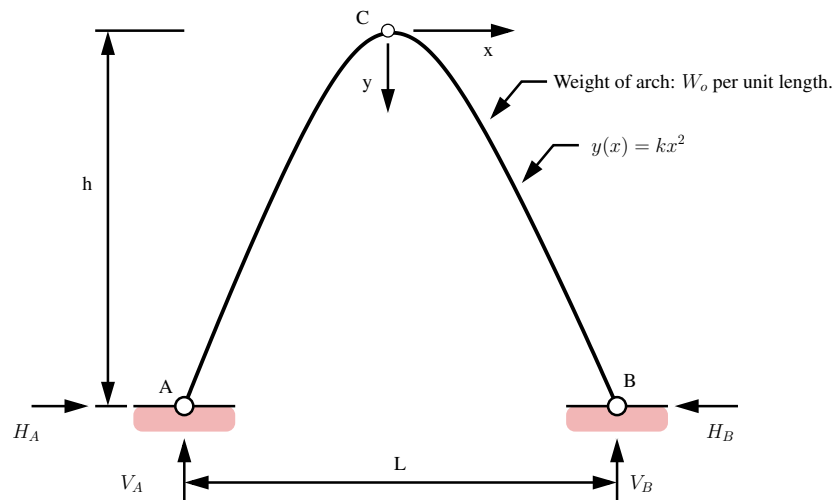

Figure 3: Front elevation view of a three-pinned parabolic arch.
**Problem Setup.** Figure 3 is a front elevation view of a three-pinned parabolic arch that has a profile:  $y(x) = kx^2$ .